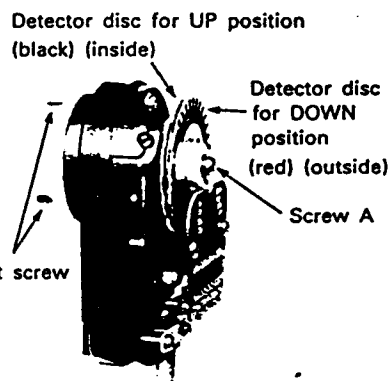

Fig. 5 Adjustment of Stop Positions
**4.1 Adjusting the Stop Positions (Fig. 5)**
Loosen the two set screws in the detector coupling and turn the coupling to adjust the needle "UP" position. If the adjustment cannot be made with the coupling, loosen the screw A in Fig. 5 and rotate all the detecting discs at the same time to set to the predetermined stop position.